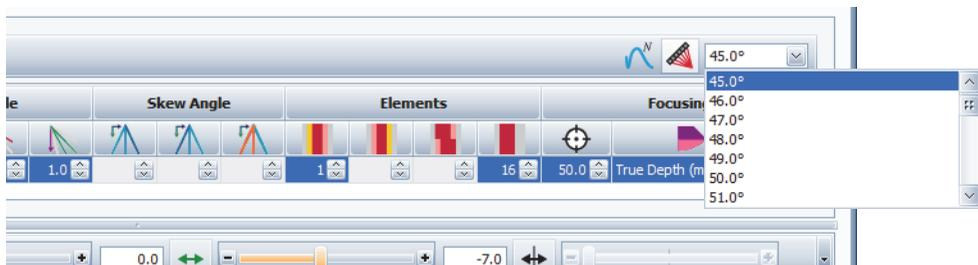

Figure 10-8 Selecting the displayed beam in the Active Beam list
2. Click the **Beam Formation** button () on the **Groups** tab toolbar. The **Beam Formation** button toggles the beam-formation visibility on and off. When more than one beam is generated for the group, the **Active Beam** list to the right of the **Beam Formation** button becomes available (see Figure 10-8 on page 143).